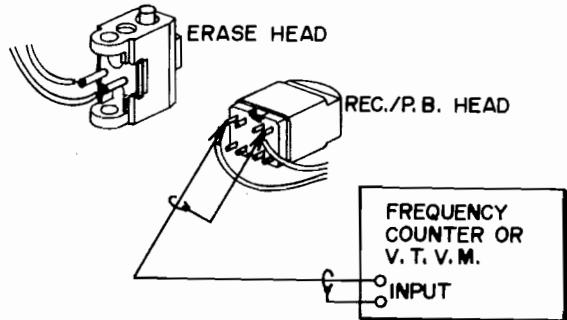

Fig. 24
- (1) (Refer to FREQUENCY RESPONSE under MEASURING METHOD, section III) Record 1 kHz and 10 kHz sine waves signal at -20 dB. Playback the tape and adjust semi-fixed resistors VR1 500 kB (left channel) and VR2 500 kB (right channel) of Syscon & OSC. P.C. Board (CP-2002) so that the output level of these two frequencies are equal.
- (2) Re-confirm recording level following frequency response adjustment.
5. RECORDING BIAS FREQUENCY CHECK (Refer to Fig. 24)
- (1) Set the GXC-75D to recording mode.
- (2) As shown in Fig. 24, connect a Frequency Counter to the coil terminals of the recording/playback head and read indication.
- (3) There is no way to adjust the recording bias frequency, but the correct frequency is 61 ± 3 kHz.
(Refer to Fig. 24)
- (2) Connect a V.T.V.M. between the coil terminals of the recording/playback head as shown in Fig. 24 and read indication. Recording bias voltage should be about 3V A.C. with low noise tape and about 4V A.C. with chromium dioxide tape.
- (3) Connect a V.T.V.M. between the coil terminals of the erase head and read indication. Erase voltage should be 27V A.C. with low noise tape and 35V A.C. with chromium dioxide tape.
- c) Turn Dolby N.R. Switch SW20 to OFF position and, as shown in Fig. 24, ground "TP" test point (FET Gate).